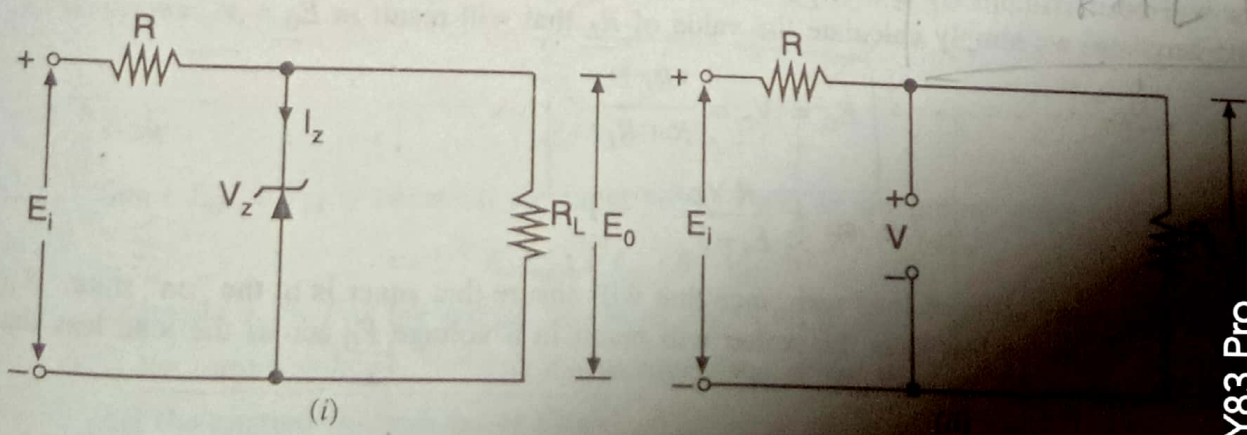

Fig. 9.44
1. E_i and R_L fixed. This is the simplest case and is shown in Fig. 9.44 (i). Here the applied voltage (E_i) as well as load R_L is fixed. The first step is to find the state of zener diode. This can be determined by removing the zener from the circuit and calculating the voltage V across the resulting open-circuit as shown in Fig. 9.44 (ii).